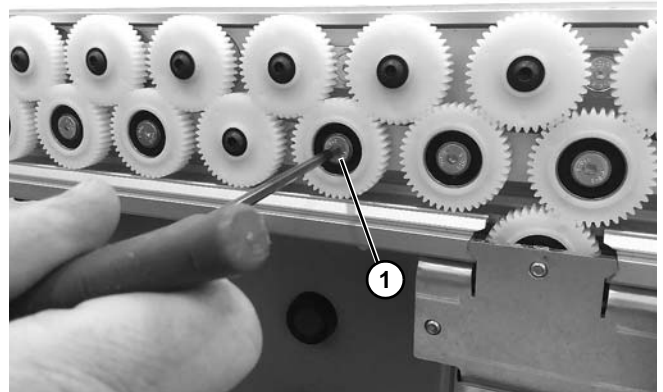

Figure 50
2. Remove screw (Figure 50, item 1) and lower gear located next to shaft.